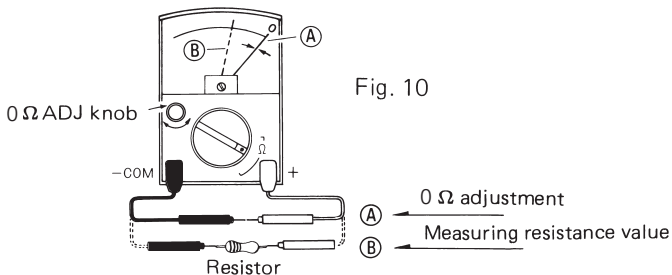

Fig. 10
$0\ \Omega$ adjustment, in other words, fullscale adjustment must be done prior to using the tester. Short + and -COM terminals together as shown in Fig. 10 (A), turn the zero ohm adjuster ($0\ \Omega$ ADJ) knob, and align the indicator pointer to the rightmost $0\ \Omega$ line of the Ω scale. After this adjustment is finished, proceed to measurement. If this adjustment is done whenever the range is switched, more accurate indicated value can be obtained.